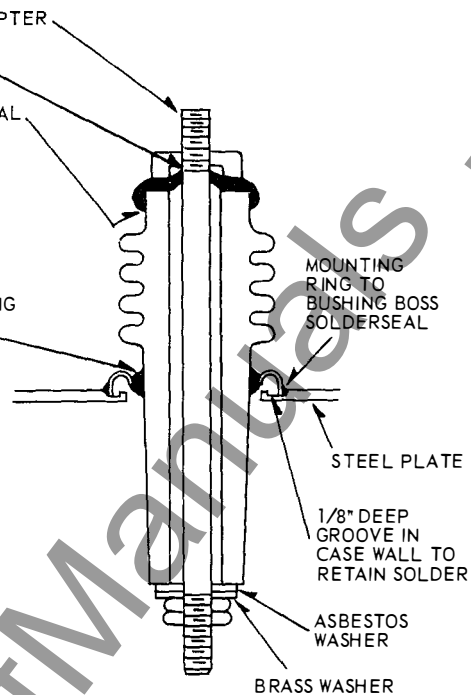

FIG. 2 - 5.0 & 8.66 KV BUSHING
4. For Figure 2 bushings, remove the bushing plate from the main case so that the bushings can be placed in the vertical position shown by Figure 2, Ref. IL 47-600-21.
For figure 2, the bushing plate should be removed per "Removal", paragraph 4. Insert this bushing in the hole and center the ring in the groove after filling the groove with molten solder.